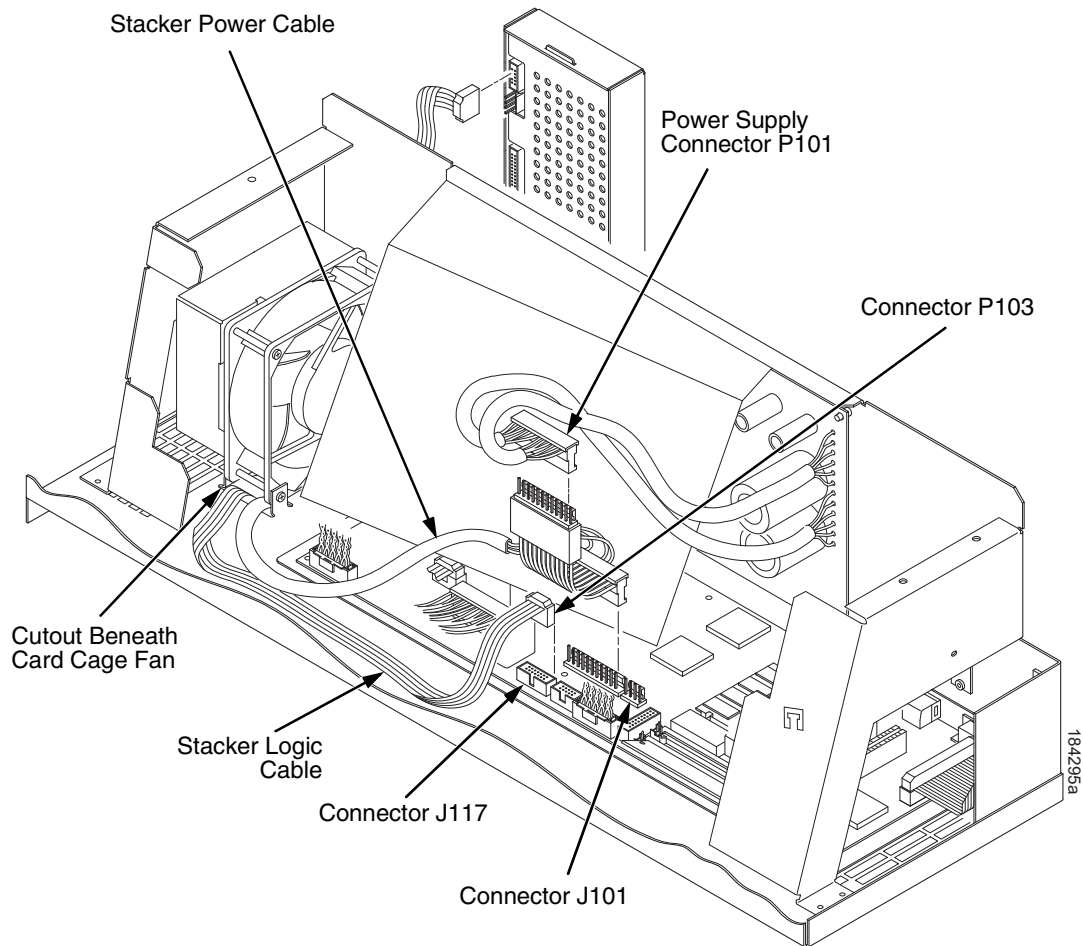

Figure 81. Power Stacker Connections on the PSA3 Controller Board
5. Connect the power stacker logic cable P103 to connector J117 on the controller board. (Figure 81.)
6. Disconnect the power supply cable from connector J101 on the controller board. (Figure 81.)
7. Connect power supply cable connector P101 to the stacker power cable, then connect the stacker power cable to connector J101 on the controller board. (Figure 81.)
8. Route the stacker power cable in front of the controller board and down through the cutout under the card cage fan. (Figure 81.)
9. Route the stacker logic cable in front of the controller board and down through the cutout under the card cage fan. (Figure 81.)